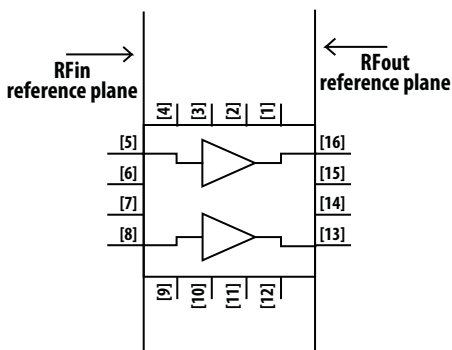

Figure 32.
- Scattering and noise parameters are measured on 0.010 inch thick ROGER 4350. The input reference plane is at the end of the RFin pin and the output reference plane is at the end of the RFout pin as shown in Figure 32.